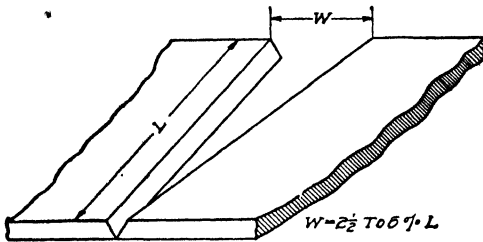
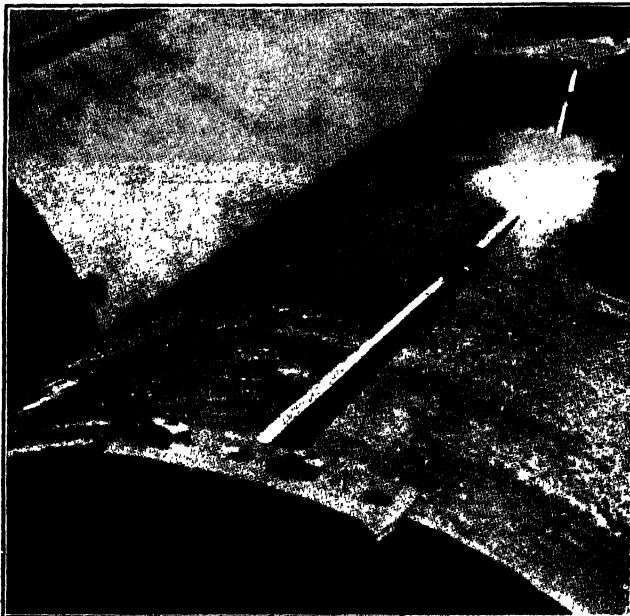

Fig. 58. Heavy Sheets in Position for Welding
Fig. 59. Welding Heavy Plate Steel Cylinder
**Expansion and Contraction.** With heavy sheet, expansion and contraction are cared for by observing the same rules of spacing, Fig. 58, and clamping, Fig. 59, or, in some cases, tacking, in order to hold the work in position for welding, as described for light sheets on page 47.